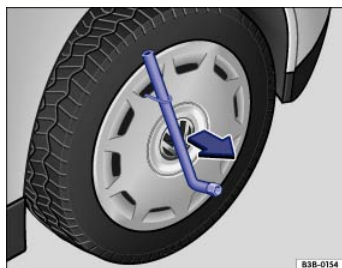

Fig. 195 Pulling the wheel cover off.
- Slide the lug wrench through the clip ⇒ Fig. 195 and pull the wheel cover off in the direction of the arrow.